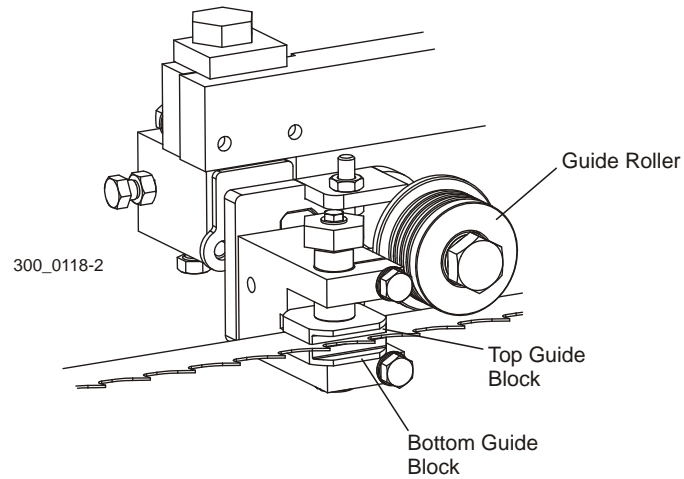

**FIG. 7-7**
**See Figure 7-7.** The major components of the blade guide assemblies are the top and bottom guide blocks and guide roller.